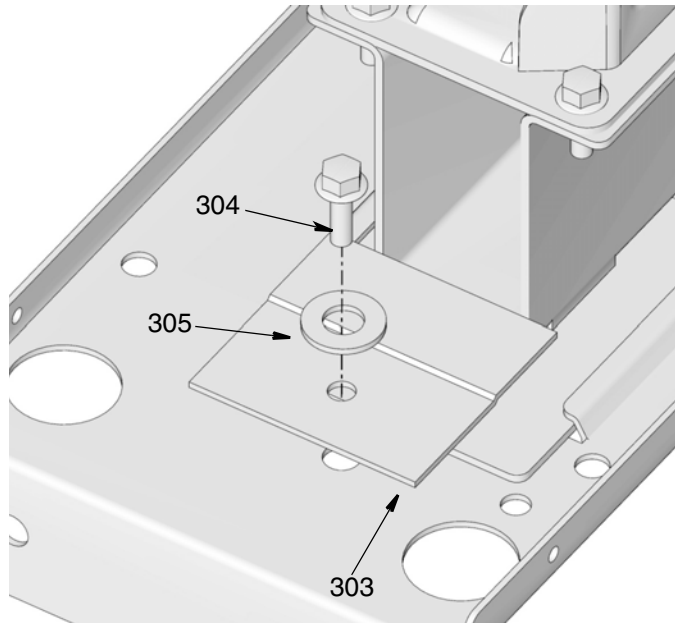

FIG. 13
6. Install hold down plate (303) using bolts/washer (304/305). (FIG. 13).